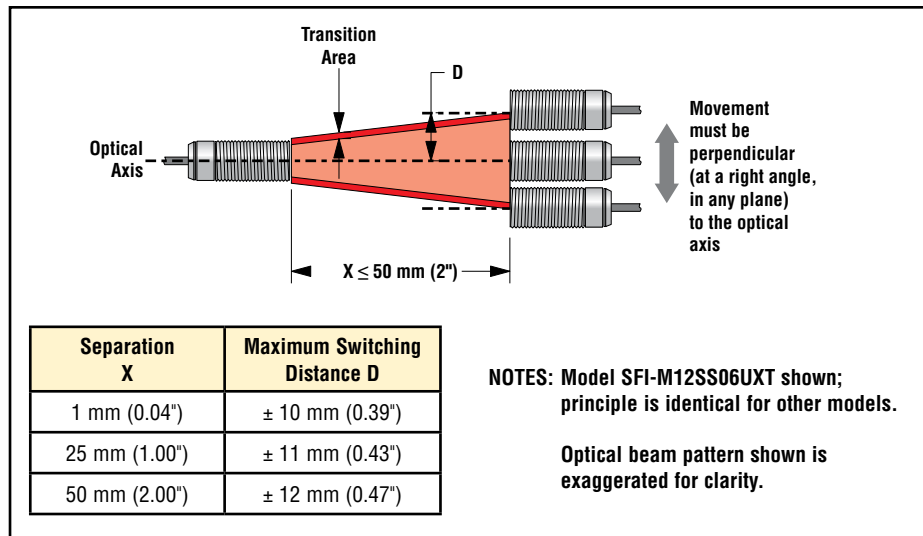

Figure 2. Switch alignment
- Linear (parallel) movement along the optical axis (see Figure 2 and the Application and Design Guide), or